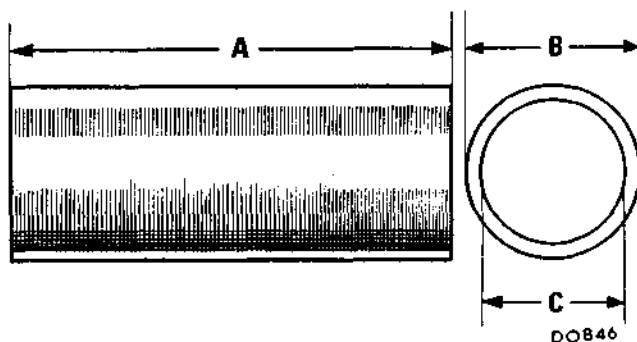

Fig. Fb.11
37. Using a fabricated tool to the dimensions shown in Fig. Fb.11 registering on the outer track of the bearing, press the shaft assembly into the gearbox.